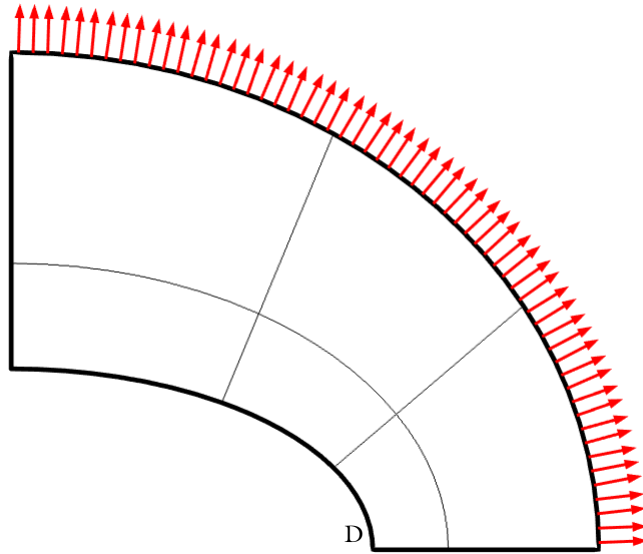

Figure 1: The geometry and load. Only the quarter that is analyzed is shown.
Due to symmetry in load and in geometry, the analysis only includes a quarter of the geometry as shown in Figure 1.
- The knowledge about where a stress concentration is expected suggests that you should use a mesh such that more elements are present in the region around point D to get optimal accuracy, see Figure 1.
The normal stress σ_y at the elliptic hole is evaluated at the point D located at $X = 2$, $Y = 0$ (see Figure 1). The target value according to Ref. 1 is 92.7 MPa. The value is based on an analytical result. The COMSOL Multiphysics results for the “coarse” and “fine” meshes are given in Table 1.